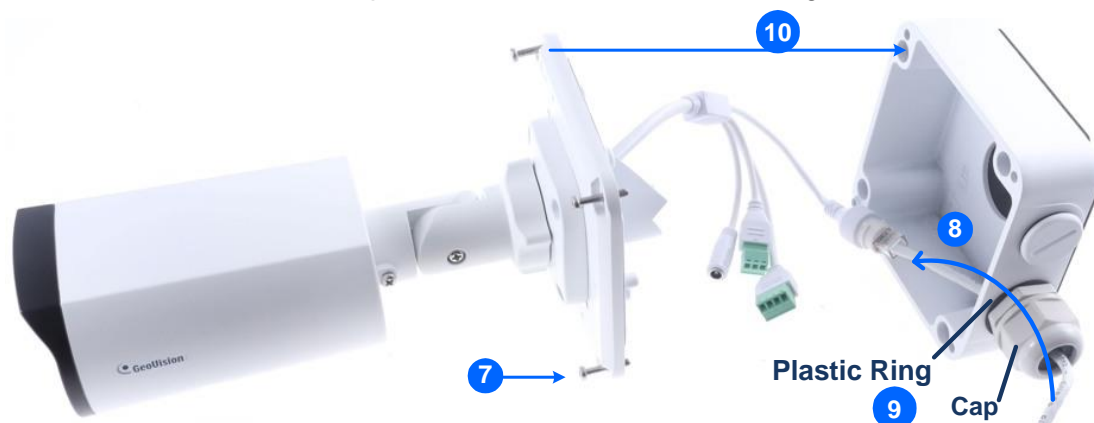

Figure 1-63
7. Reattach the box cover to the power box, as shown in No. 7, *Figure 1-63*.
8. Thread the Ethernet cable through the PG21 conduit connector and the power box as shown in No 8, *Figure 1-63*. Then connect the cable to the camera. To waterproof the cable, see *1.8 Waterproofing the Cable*.
9. Rotate the plastic ring to secure the conduit connector to the power box. Secure in the cap, as shown in No 9, *Figure 1-63*.
10. Secure the box cover to the power box, as shown in No 10, *Figure 1-63*.
7. Thread the Ethernet cable through the center hole (proceed to Step 9) or through the PG21 conduit connector and the power box as shown in No 8, *Figure 1-63* (proceed to Step 8).
8. Rotate the plastic ring to secure the conduit connector to the power box. Secure in the cap, as shown in No 9, *Figure 1-63*.